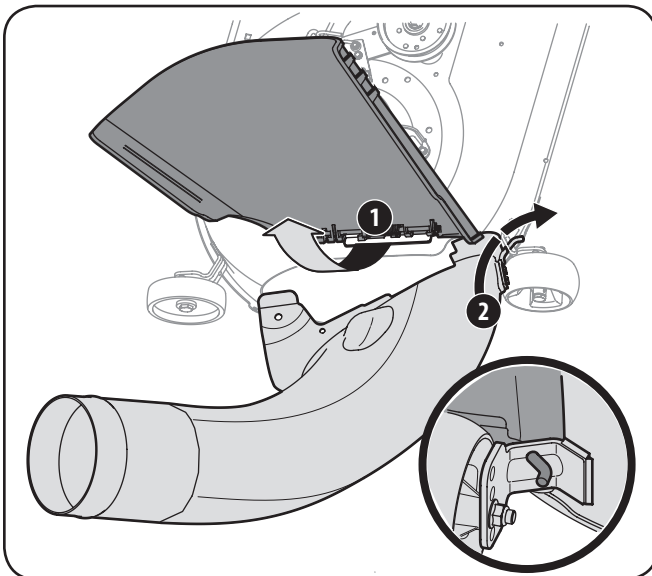

Figure 4-18
1. With the tractor's discharge chute raised up and held open (1), install the chute elbow by placing the chute elbow mounting rod into the hole provided in either your deck wheel bracket or chute mounting tab (2), as shown in Figure 4-18.